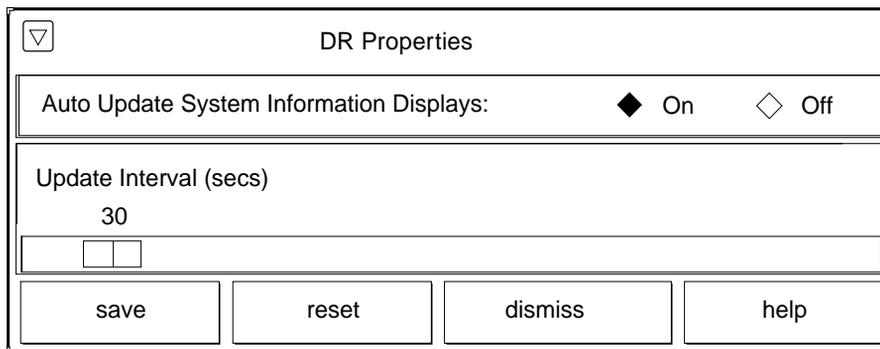

FIGURE 3-7 DR Properties Window
1. Click the `Properties` button in the Dynamic Reconfiguration window for `attach` or `detach` (FIGURE 3-7).